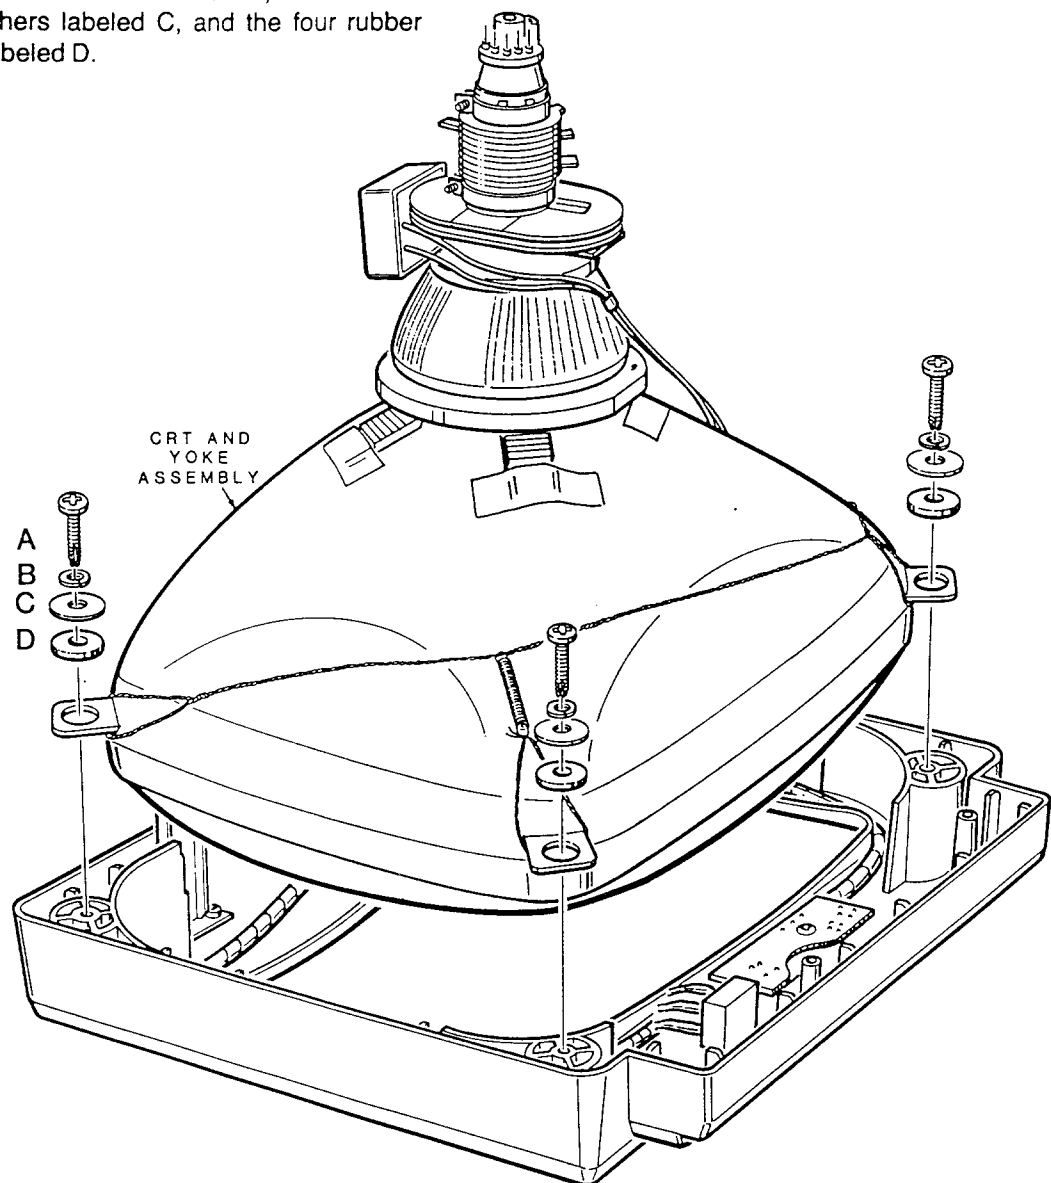

Figure 3-25. CRT and Yoke Assembly Removal
2. Refer to Figure 3-25 and remove the four 7/8-inch phillips thread-forming screws labeled A, the four lock washers labeled B, the four flat metal washers labeled C, and the four rubber washers labeled D.